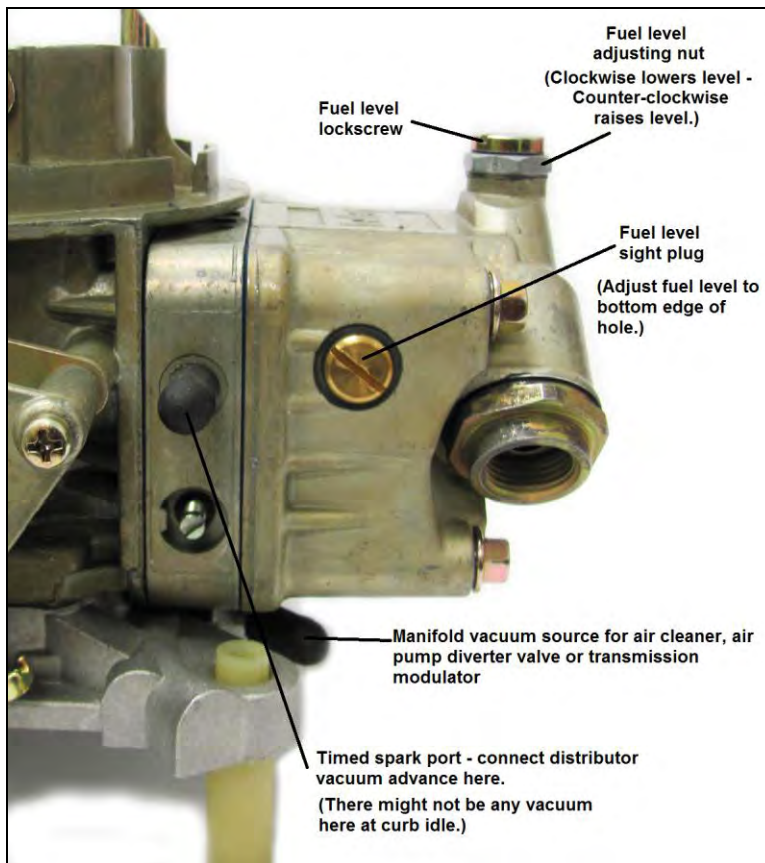

Figure 4
- 1. **Fuel Level:** On level ground with the engine running, remove the primary and secondary fuel level sight plugs. Loosen the lock screw and turn the adjusting nut clockwise to lower the fuel level and counterclockwise to raise the level. Fuel level will be properly adjusted when the fuel begins to trickle out of the sight hole. Tighten the lockscrew and replace the fuel level sight plugs. See Figure 4.